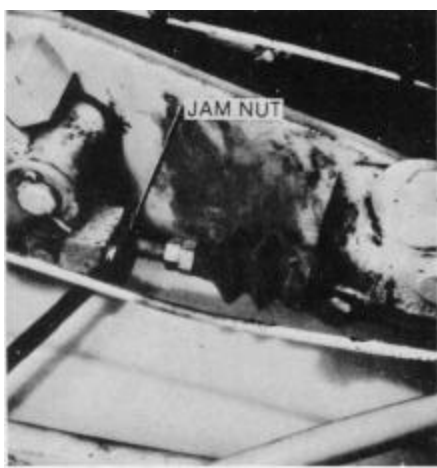

Figure 5-89
1. Back off the jam nut on the adjustment rod by turning it in a counterclockwise direction (Fig. 5-89).
The free play mentioned is actually the clearance between the end of the plunger rod within the master cylinder boot and the master cylinder plunger position. (Fig. 5-89).
3. Tighten the plunger rod jam nut on the push rod by turning the nut in a clockwise direction (Fig. 5-89).